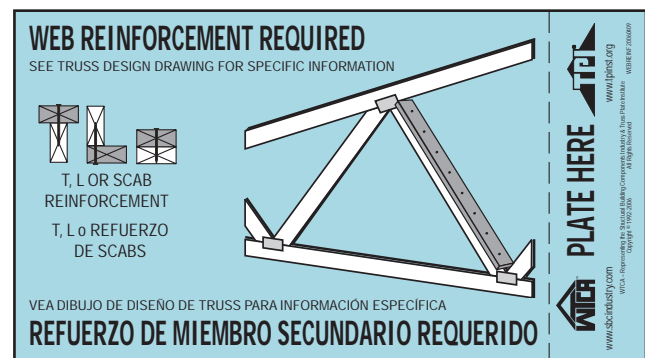

FIGURE B3-21
- ✓ I- and U-Reinforcement are similar to T- and L-Reinforcement, respectively, except that two (2) pieces of lumber are added, one to each narrow face of the web.
- ✓ Some Truss Manufacturers will mark permanent web member reinforcement locations on the truss itself. An example of one such marking used is the truss tag shown in Figure B3-21.